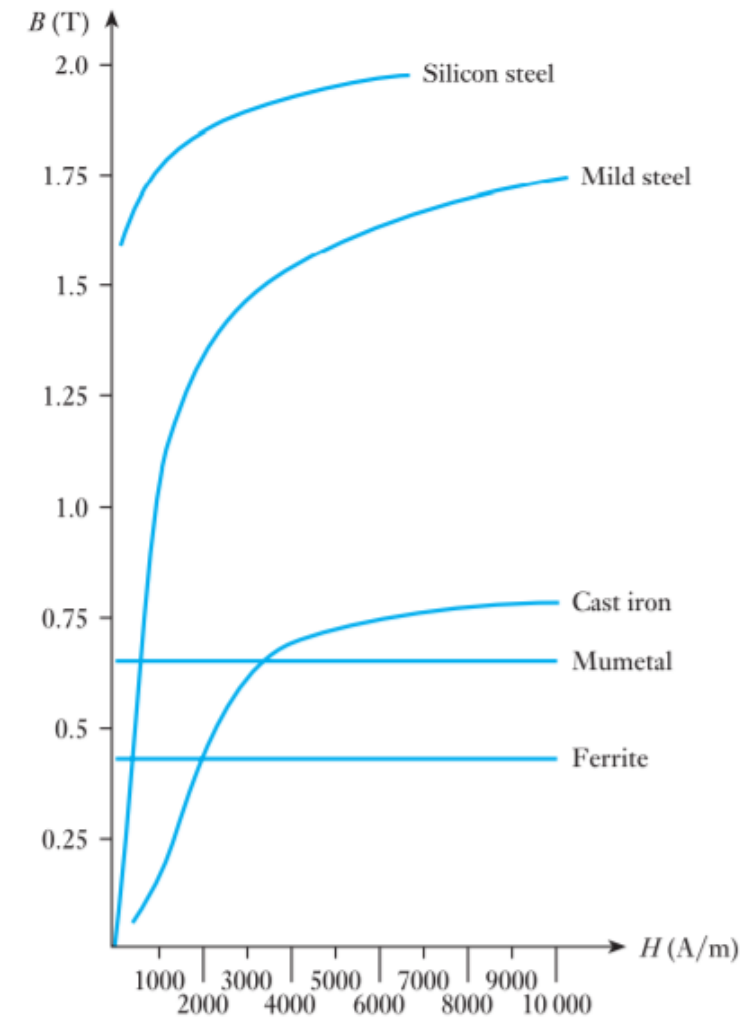

Fig. 3.2.
- It is usually convenient to represent the relationship between the flux density and the magnetic field strength graphically as in Fig. 3.2